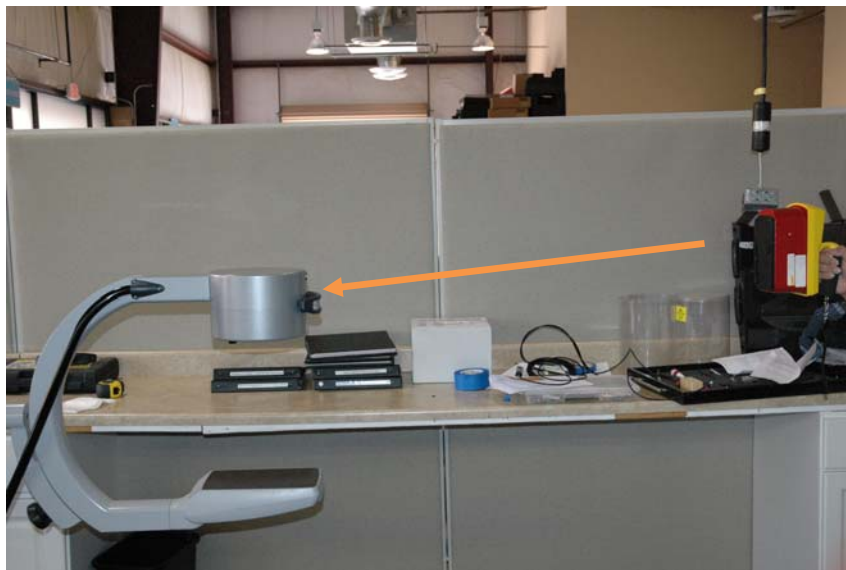

Figure 3.4
- Open shutter of the Fluke Meter. Position meter to be level with x-ray source enclosure & orientate meter as shown in Figure 3.4.